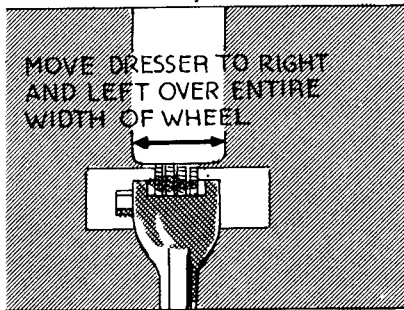

FIG. 555
8. Slowly press the dresser against the face of the revolving wheel until it "bites." Then, move the dressing tool back and forth across the wheel to obtain a straight surface. Hold the dresser rigidly to retain the trueness of the wheel when the face is being dressed (Fig. 555).